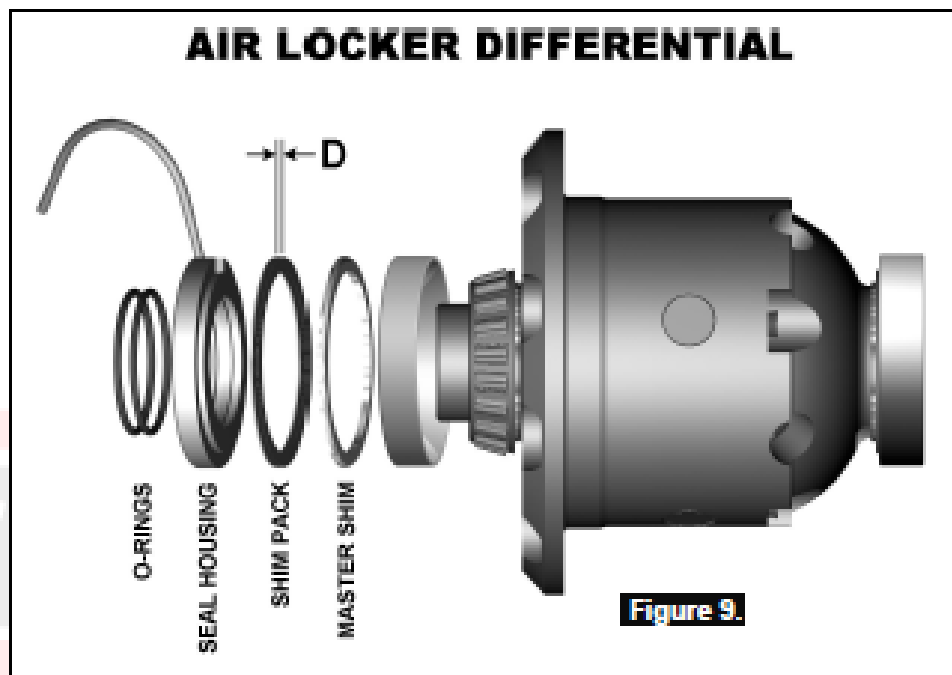

Figure 9.
In order to pre-load the tapered roller bearings in your *Air Locker*, measurements need to be taken so that a value can be calculated for the shim thickness 'D' in Figure 9.
- ☐ Add the specified pre-load amount to the measurement taken with the feeler gauge to determine a shim amount for 'D' in Figure 9.
- ☐ Install the shim pack 'D' between the master shim and the seal housing as shown in Figure 9.
- ☐ To decrease the amount of backlash, reduce the shim thickness 'B' (Fig.7.) and increase the shim thickness 'D' (Fig.9.) by the same amount. Reverse this step to increase the backlash.